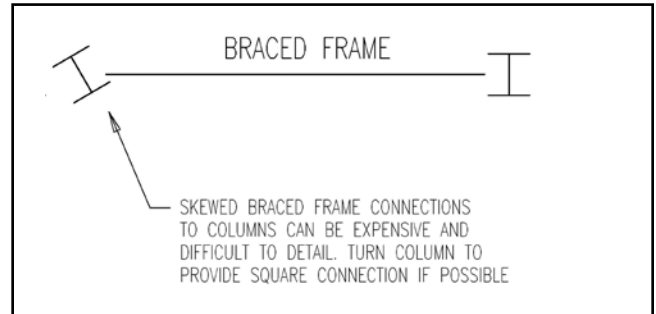

Figure 4: Orient columns in braced frames to enable square bracing connections.
- 16) **Orient columns in braced frames square with braced frame members.** (Figure 4)